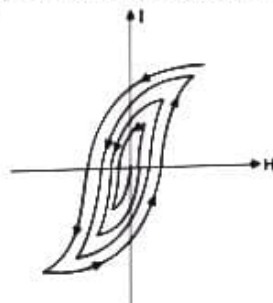

Fig. 5.5 : Demagnetisation
- In order to demagnetise a substance, it must be taken through a cycle of magnetisation with gradually decreasing magnetising force (Fig. 5.5). To achieve this, insert the bar in a coil through which an alternating current of gradually diminishing value is passed.